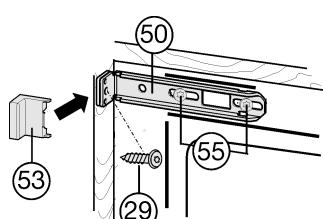

Fig. 19
- Slightly loosen the screws Fig. 19 (55).
- Secure the top mounting bracket Fig. 19 (50) to the unit wall with a Ø4x19 chipboard screw Fig. 19 (29).
- Break off the protruding end of the cover Fig. 19 (53).
- Tighten the screws Fig. 19 (55).
- Place the cover Fig. 19 (53) in position.